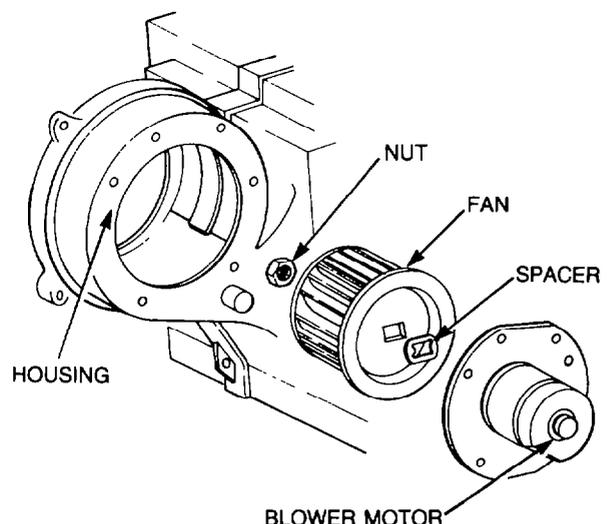

Figure 329 — Blower Motor and Fan — Removal
- b. Disconnect the wiring connector from the blower motor, then remove the screws securing the motor to the air conditioner/heater unit housing (see Fig. 329). The motor earth lead is secured to the motor by one of these screws. Remove the vent tube, then withdraw the motor and fan assembly from the housing.